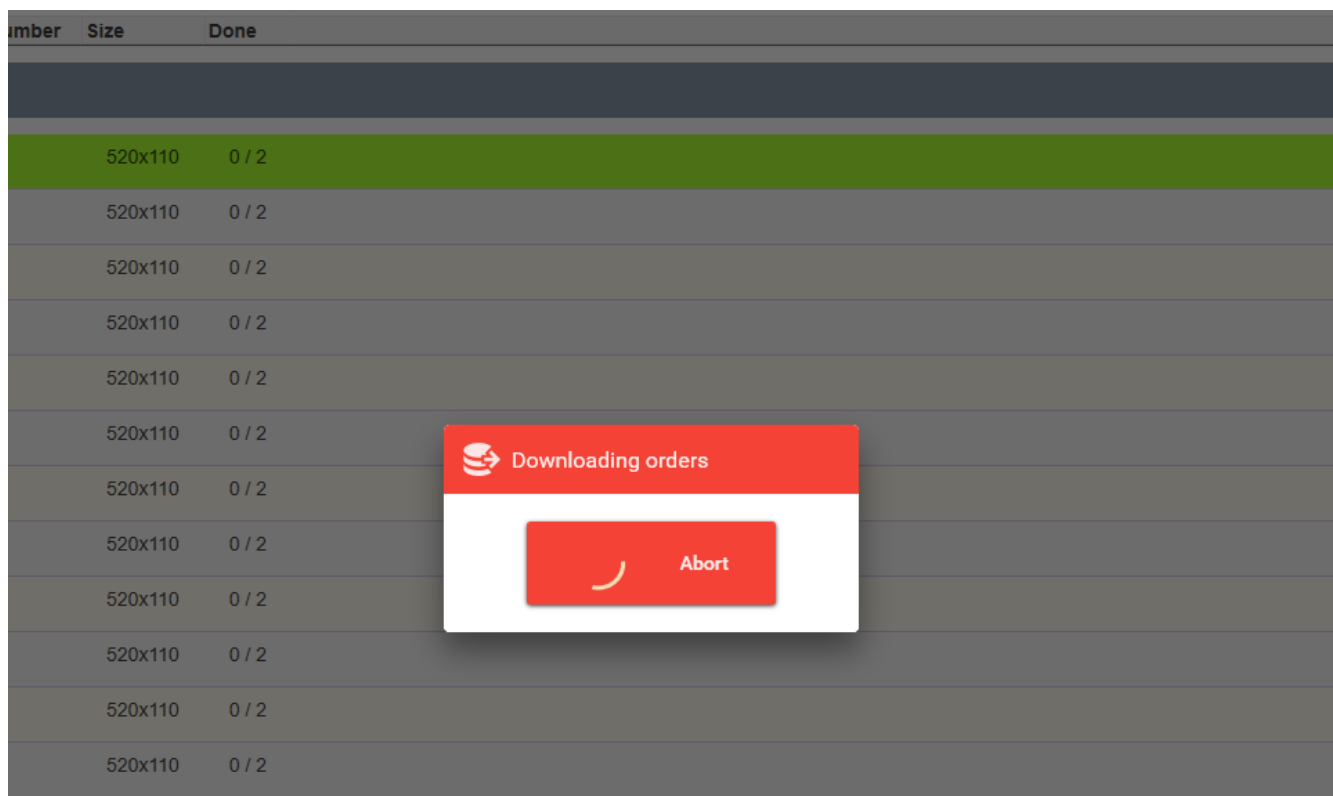

Figure 6. Order download progress window
<p>Clicking this button loads the unfinished orders from the database to the Orders list (1). A order download progress window is shown – see Figure 6. This button is enabled when the machine has a valid connection to the database and no order is downloaded into production. Once an order is downloaded into production with use of “Download order” button, it should be stopped first using “Stop order” button in order to be able to refresh orders once again.</p> <p>The number of orders available for download is checked automatically and shown in the top-right corner of the button in the form of circle.</p>